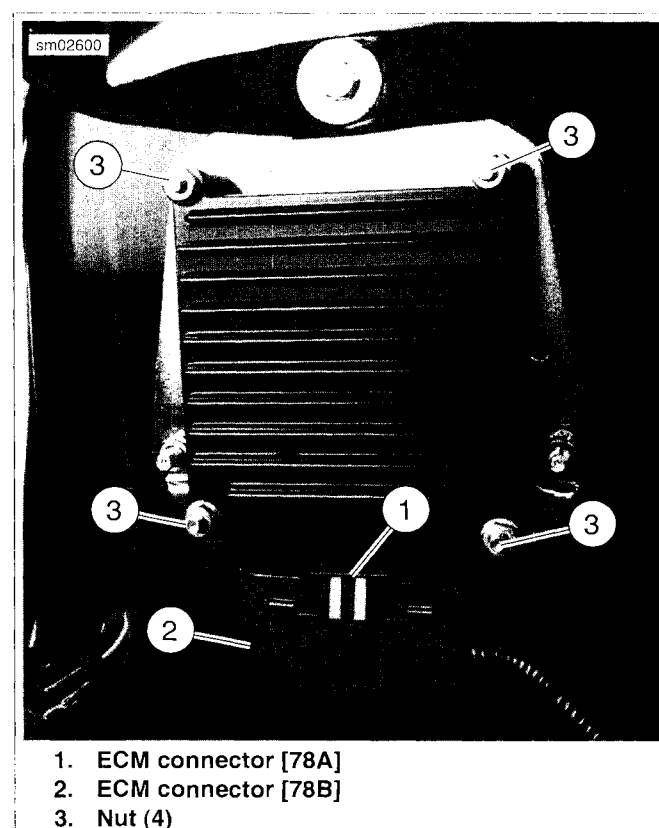

Figure 7-5. ECM Mount:
- b. For FXST/FXSTC/FLSTF/FLSTFB/FLSTSB, see Figure 7-5. Remove four nuts and washers holding ECM to mounting bracket. Press latch on connector [78] and disconnect from ECM.
- b. For FXST/FXSTC/FLSTF/FLSTFB/FLSTSB, see Figure 7-5. Install four nuts and washers that secure ECM to mounting bracket. Tighten to 30-35 **in-lbs** (3.4-4.0 Nm).